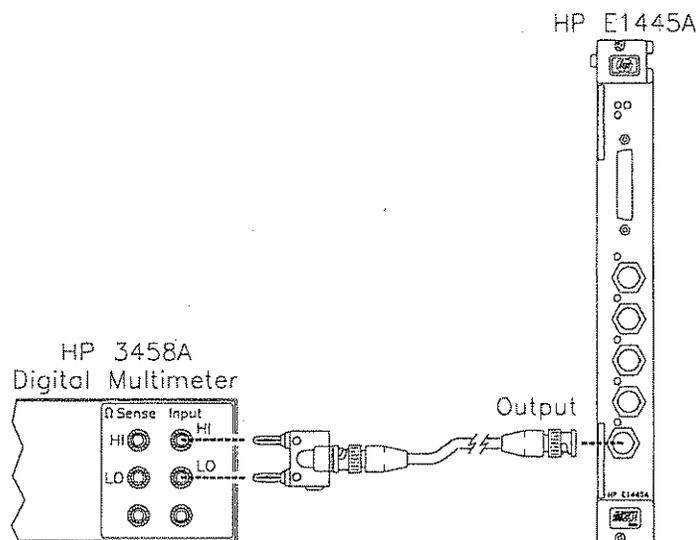

Figure 2-5. Equipment Setup for Test 2-1 thru Test 2-4
- Connect equipment as shown in Figure 2-5